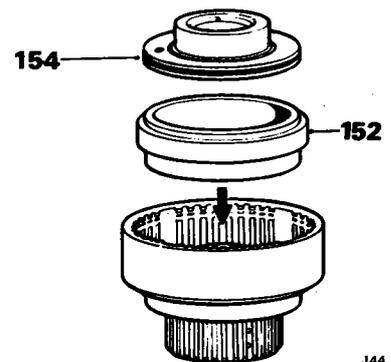

Fig. 50
- 152. Position the front clutch piston replacer tool 18G 1107 in the clutch drum (Fig. 50).
- 154. Install the piston (Fig. 50); remove the tool.